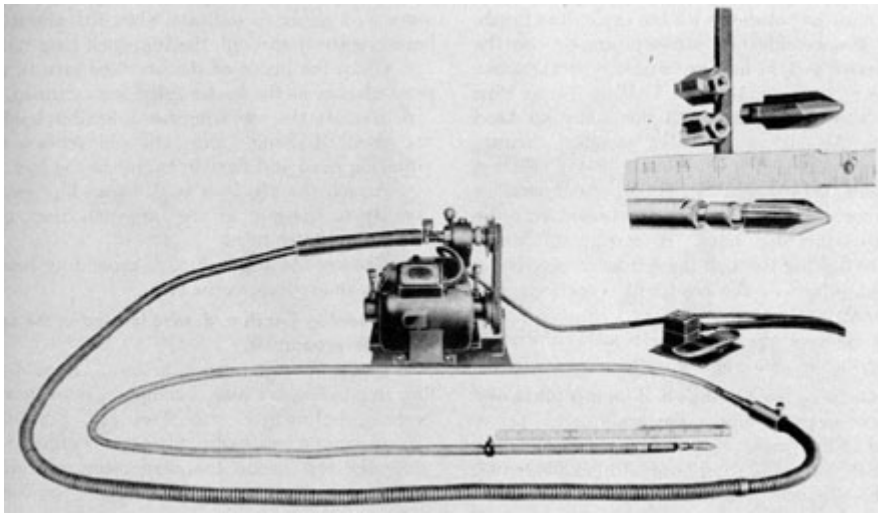
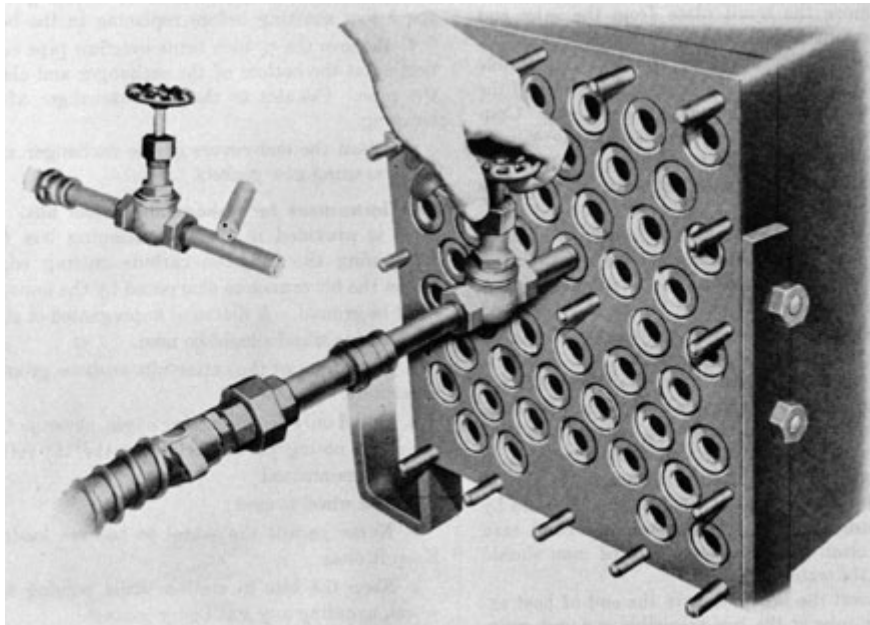

Figure 9-3. Cleaning gear with a cutter bit.
Figure 9-5. Water nozzle.
1. Cleaning 3/4-inch tubes with the cutter bit (Figure 9-3). The tubes must be full of water.
**9B5. Cleaning the 1 3/4-inch o.d. heater tubes and inside of overflow pipe.** The scale should be removed in the presence of water (Figure 9-3).
b. Connect the tube cleaning motor and flexible shafts as for cleaning the 3/4-inch o.d. tubes of the evaporator. (See Figures 9-3 and 9-4.) Connect the water hose with nozzle for the 3/4-inch o.d. tubes attached. (See Figure 9-5.)